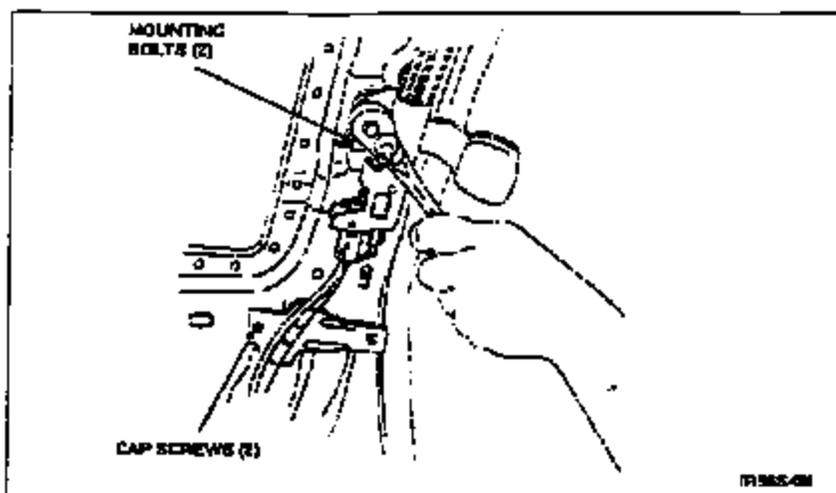

Figure 4
8. Remove the two (2) rail side mounting bolts. Refer to Figure 4.
9. Remove the two (2) cable retaining capscrews. See Figure 4.